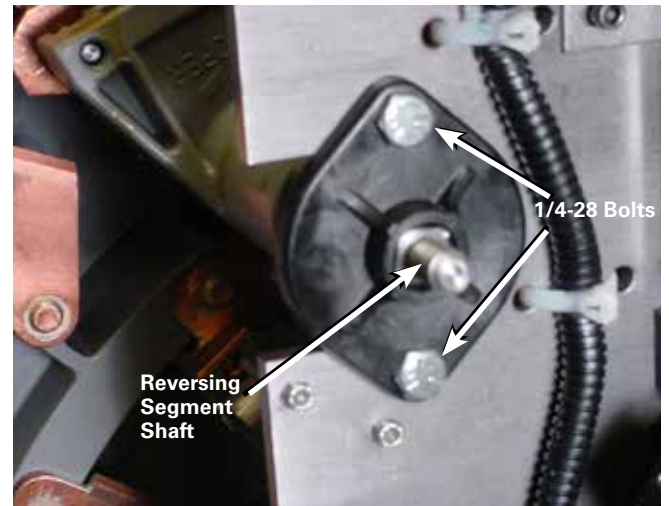

Figure 70. Reversing segment gear shaft.
- If not present on the threads, apply Loctite® 243™ threadlocker to the two 1/4-28 bolts. Using the bolts and a 7/16" wrench, fasten the reversing movable bushing to the front of the tap-changer. Tighten the bolts to a torque of 30–40 in-lbs (3.4–4.5 Nm). See Figure 70.